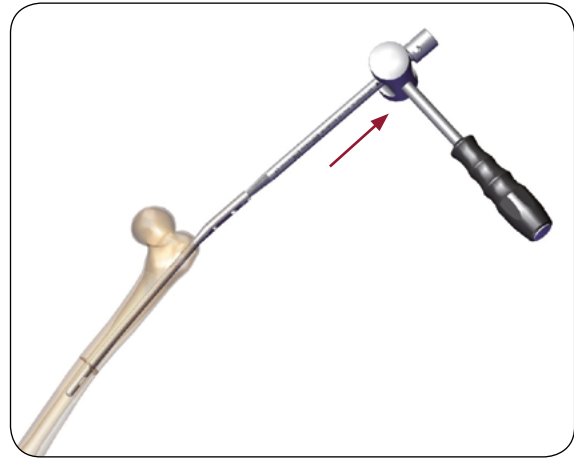

Fig. 44 Nail extraction using slotted mallet
- **Option A:** Extract the nail by gently hammering with the slotted mallet on the pre-assembled mallet adaptor (**Fig. 44**).